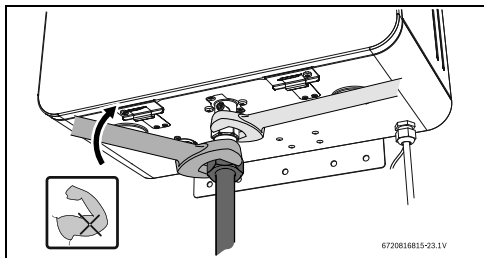

Fig. 23 Tighten gas pipe to the heater
- ▶ Tighten gas pipe with the support of a wrench, see fig. 23.